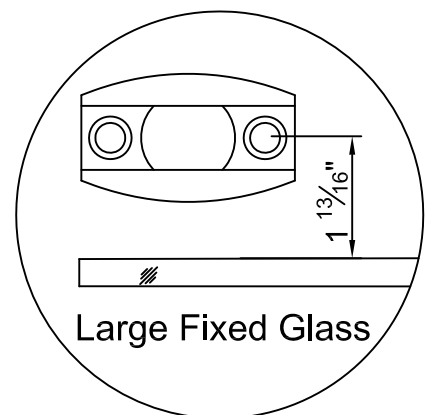

Fig. 21
21. Position the Sliding Door Track Divider (8) into position as seen in Fig.21 and mark the 2 shower base hole positions.
Note: In Fig.21 the hole locations for attaching sliding door track divider should be 1 13/16" from edge of Large Fixed Glass (3).
See Fig.21 for details.